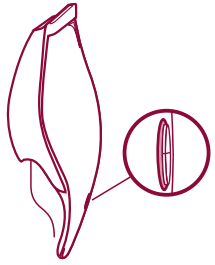

Fig. 6
- If the appliance is positioned correctly, the light around the push buttons will turn red. (fig. 6)